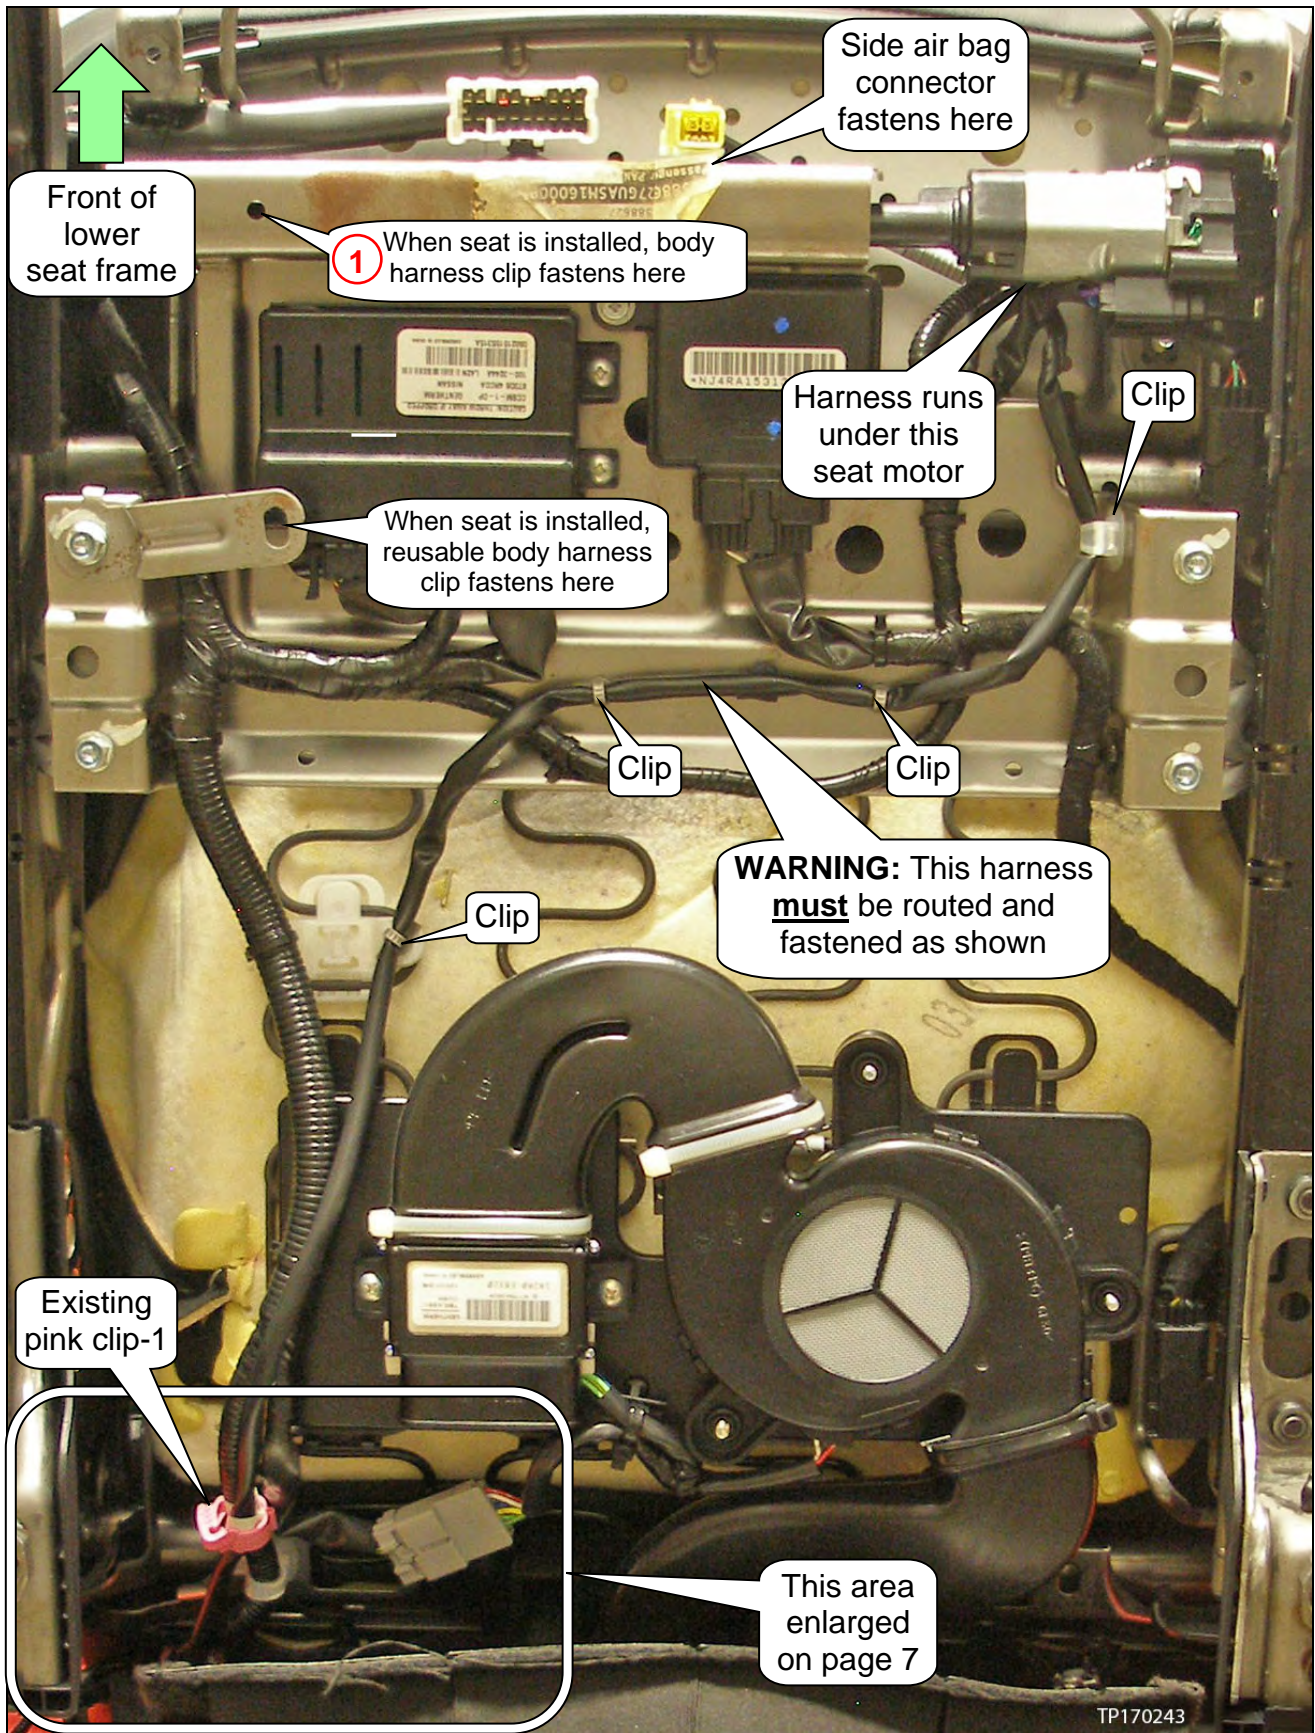

Figure 2
- Each time the battery is disconnected, wait at least three (3) minutes before continuing.
- Install a new clip for the body harness (on page 6, see **1** in Figure 2).